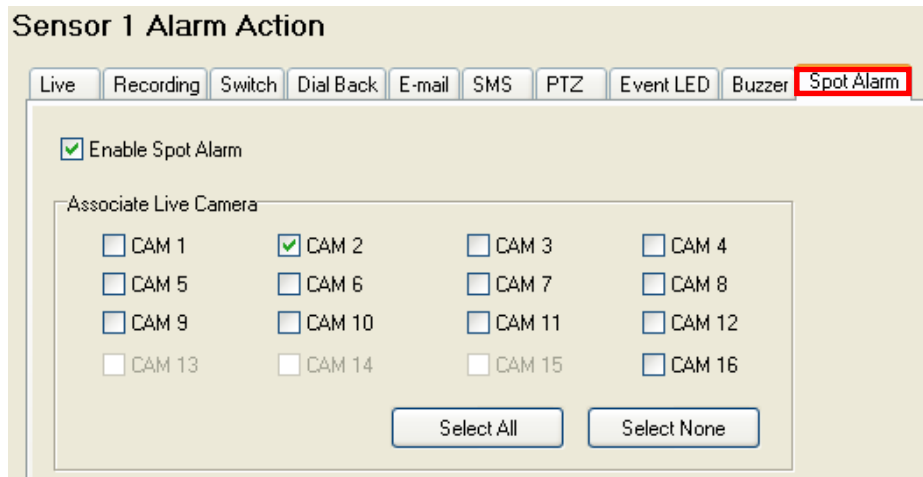

Fig 8.2.8a
Step 1 : In {(Event) Action} panel, click [Live] option to set live camera setting as Fig 8.2.8a.